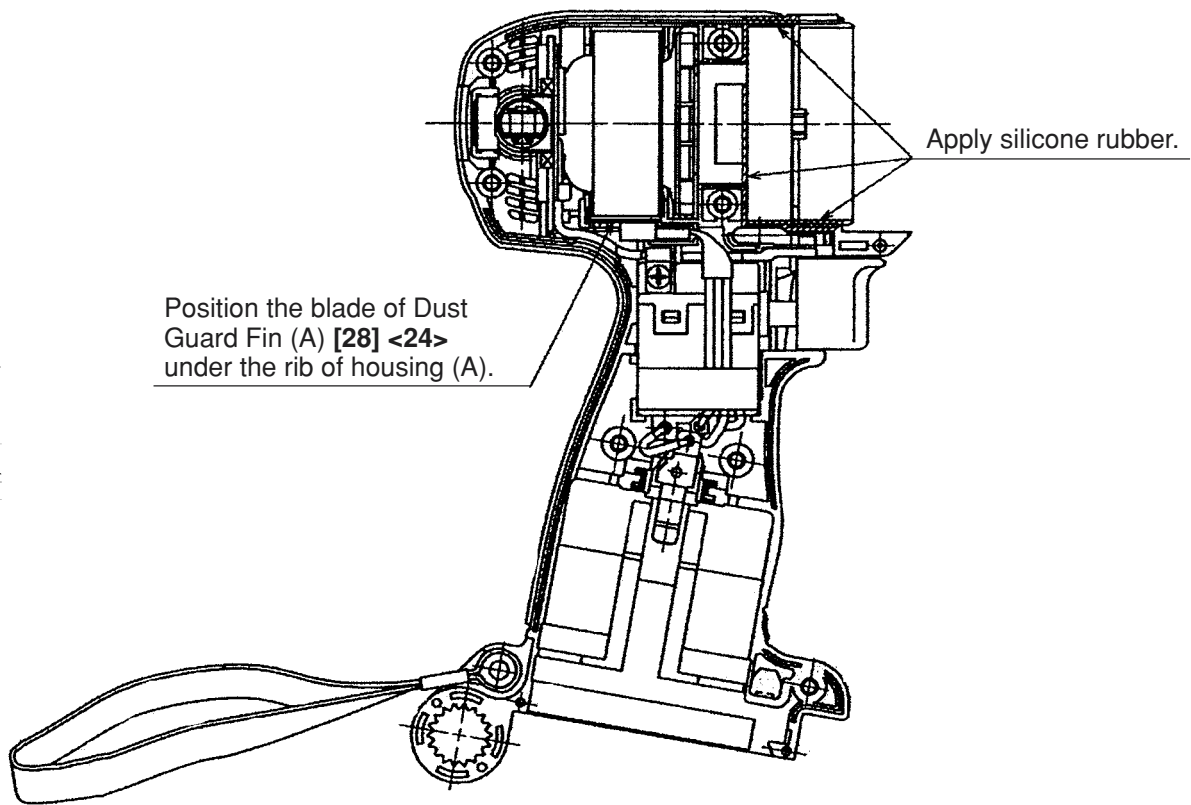

Fig. 11
(d) Mount a unit of Inner Cover (A) [23] <20> (including the Armature Ass'y [24] <21>), Magnet (D) [26] <23> (including Dust Guard Fin (A) [28] <24>, Magnet Spacer [27] (Model WH 9DM2 only) and Side Yoke [25] <22>) and Brush Block [29] <25> into housing (A) (see Fig. 11). Pay attention to the following items.
(Note) The temperature of the FET can be high if the silicone grease is not applied. Make sure that the three internal wires from the FET are bent as shown in Fig. 11 and passed above the DC-Speed Control Switch [37] <33> to keep from contact with Pushing Button (A) [38] <34> (see Fig. 11).
(2) Apply silicone rubber (ThreeBond 1211) to housing (A) and Inner Cover (A) [23] <20> as shown in Fig. 11. Mount housing (B) and secure them with seven Tapping Screws (W/Flange) D4 x 20 (Black) [32] <28>. Wipe the silicone rubber coming out of the housing with a cloth. Insert Sleeve (A) [45] <41> into the Strap [44] <40> and tighten the Machine Screw (W/Washers) M4 x 25 [46] <42>.